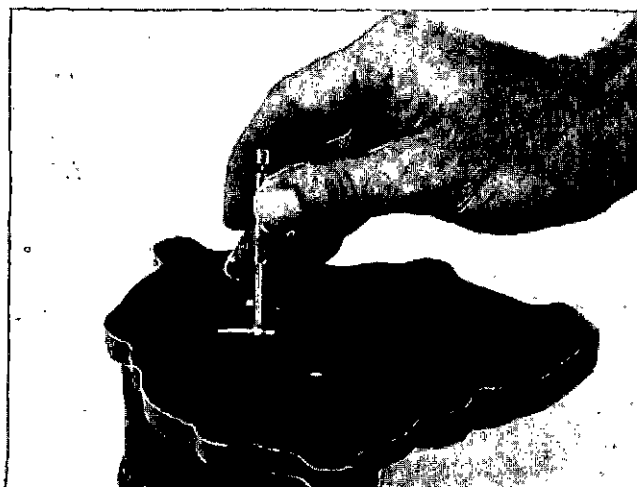

Fig. 7-7. Measure The Inside Diameter Of The Bushings.
3. Inspect the bushings in the pump body, cover and idler gear, Fig. 7-7. Replace the bushings if they are damaged or the inside diameter